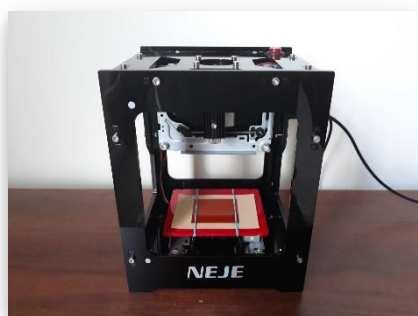

Figure 2A
c. Place the sample onto the center of the laser platform (as shown in *figure 2A*)